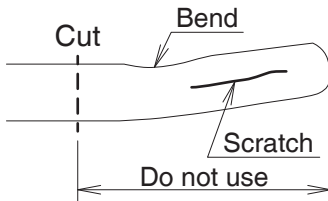

Fig. 3
- (1) Cut away the section of the flareless joint for insertion if it has any scratches or bends, or if it is not completely round or shows signs of thermal damage. (See Fig. 3)
- (2) Straighten the section of piping for insertion.
- (3) If any foreign matter is adhered to the inner or outer surfaces, remove it.